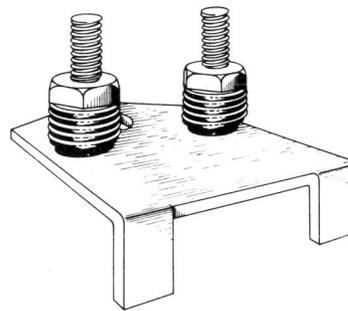
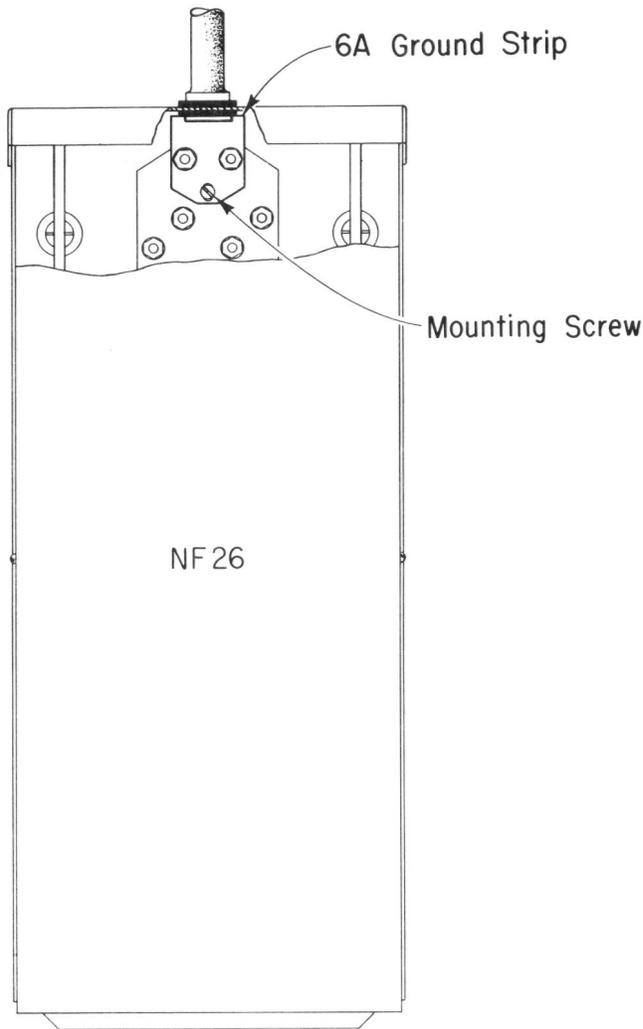

Fig. 75—6A Ground Strip
Fig. 76—6A Ground Strip Installed in NF26 Cable Terminal
7.07 The 6A ground strip (Fig. 75) consists of a brass plate with two binding posts. It is intended for use in 26-pair NC, NE, NF, and NH cable terminals and is mounted in the same manner as the 5A strip (Fig. 76). The 6A ground strip has a capacity of ten wires.